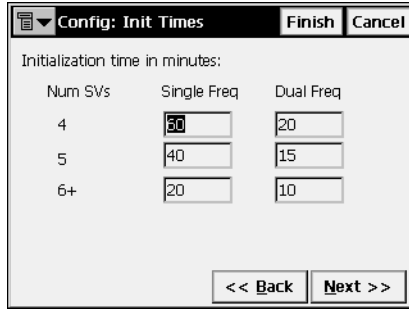

Figure 3-38. Config: Initialization Times
5. In PP Kinematic mode, set Initialization times for a given number of satellites and frequency modes on the **Config: Init Times** screen (Figure 3-38 on page 3-28), and tap **Next**.